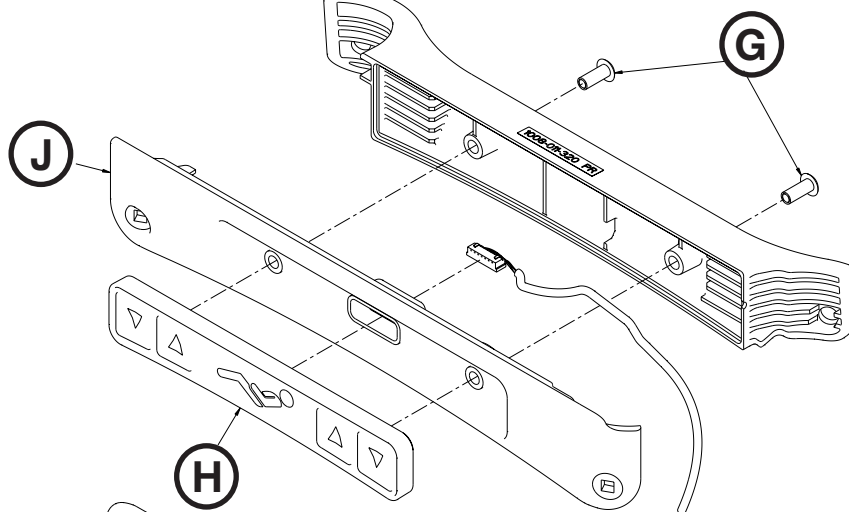

Figure 52
14. Using a Phillips screwdriver, remove the two carriage bolts (G) that hold the siderail control pad to the top rail (Figure 52).
15. Unplug the connector from the siderail control pad (H) (Figure 52).
18. Remove the siderail control pad top housing (J) by pulling upward (Figure 52).